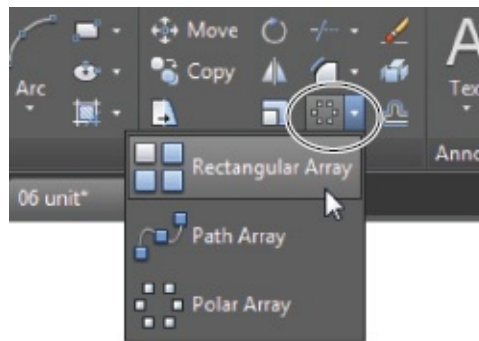

FIGURE 6.6 The Rectangular Array tool on the Array flyout
1. Click the Rectangular Array tool on the Array flyout on the Modify panel, as shown in Figure 6.6, or type **ARRAYRECT** ↵.